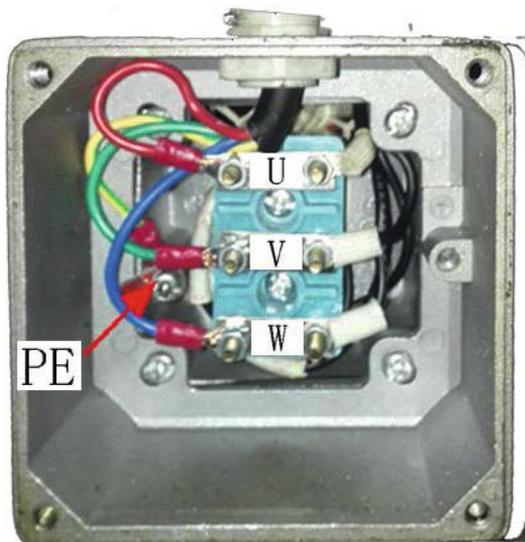

fig.10
- Connection of power line: Connect the 380V three-phase four-wire powerline (cable of 3×2.5MM2+ 1×1.5 MM2) to the control cabinet interfaces U, V, W and input terminal, and connect the PE grounding wire to the labeled grounding bolt firstly and then to the labeled grounding bolts at the bottom of the two platforms (Fig. 10, 11)